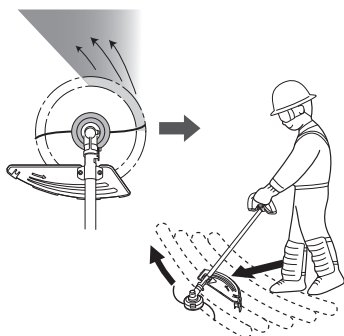

Fig. 21
- Cut grass from left to right. The cut grass will be discharged away from the body, minimizing transfer to your clothes. (Fig. 21)